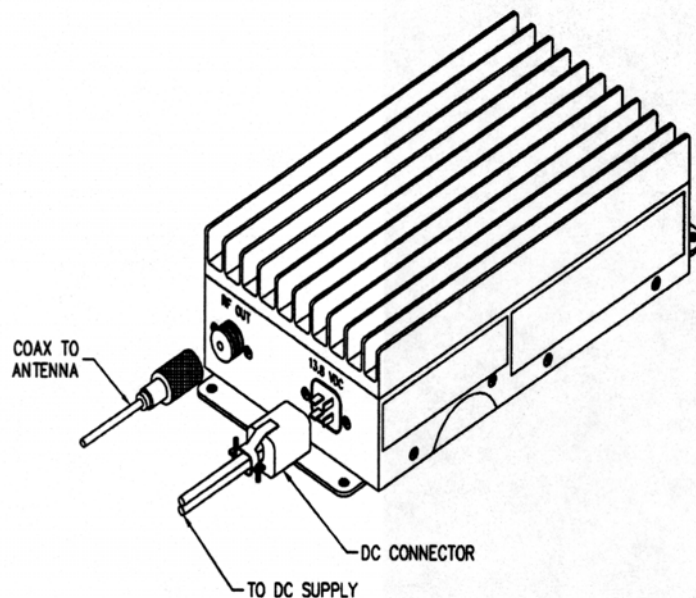

Figure 4. Antenna connection
3. Connect the antenna to the **"RF OUT"** terminal with a 50 $\Omega$  coaxial cable and a PL-259 UHF male connector according to figure 4.